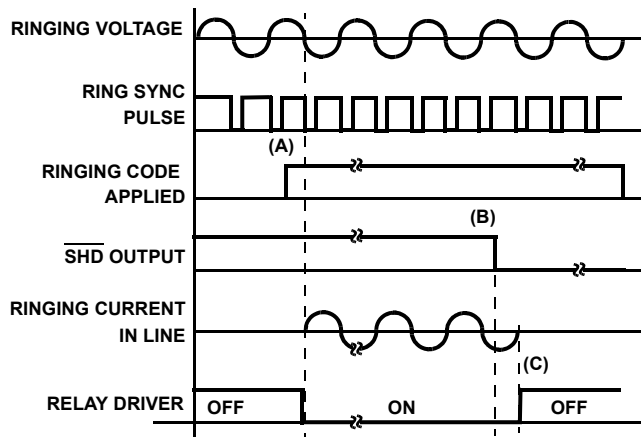

FIGURE 19. RINGING SEQUENCE
Figure 19 shows the sequence of events from ringing the phone to ring trip. The ring relay turns on when both the ringing code and ring sync pulse are present (A).  $\overline{\text{SHD}}$  is high at this point. When the subscriber goes off hook the  $\overline{\text{SHD}}$  pin goes low and stays low until the ringing control code is removed (B). This prevents the  $\overline{\text{SHD}}$  output from pulsing after ring trip occurs. At the next zero current crossing of the ring signal, ring trip occurs and the ring relay releases the line to allow loop current to flow in the loop (C).